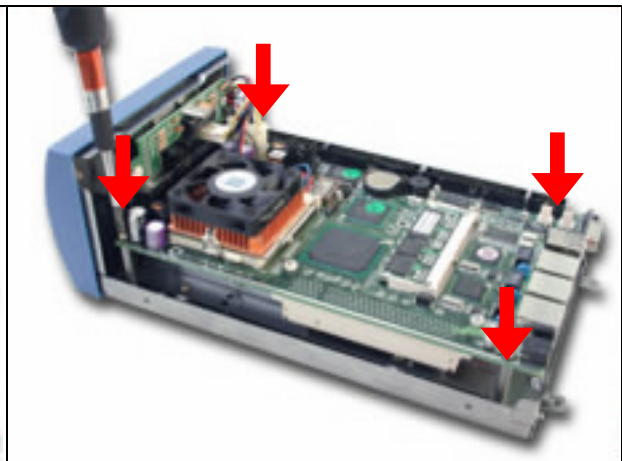

Fig. 2-30 Drive all four screws back
8. Put the PPAP-200 back to the chassis (*Fig. 2-30*).